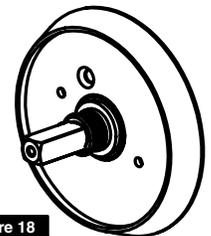

Figure 18
9. Insert spindle into inside trim of lockbody hub. (Figure 18)